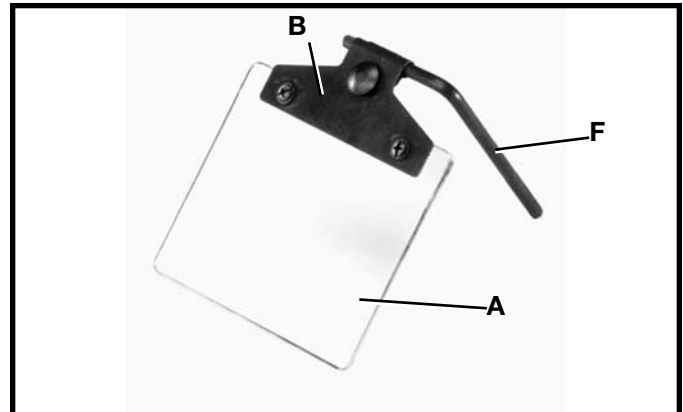

Fig. 5
3. Figure 5, illustrates the mounting rod (F), frame (B) and eyeshield (A) assembled.